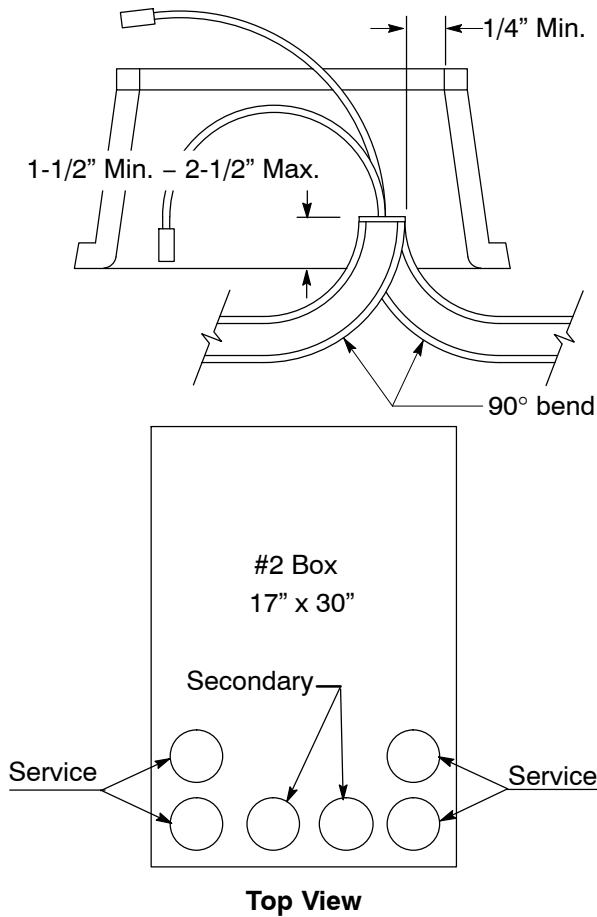
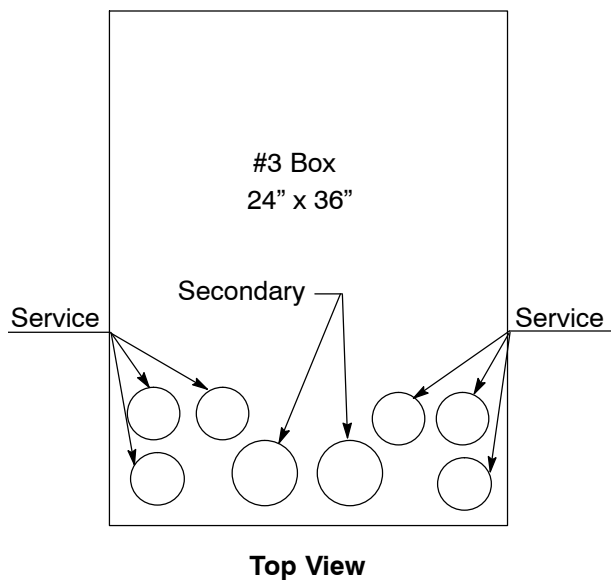

Figure 5
Figure 6
2. Enclosure is designed as open bottom for new conduit entry per Figure 5. A base is not required.
8. For new construction conduits shall enter the enclosure using 90 degree elbows rising into the enclosure. Refer to Figure 5 and Figure 6 on Page 7.